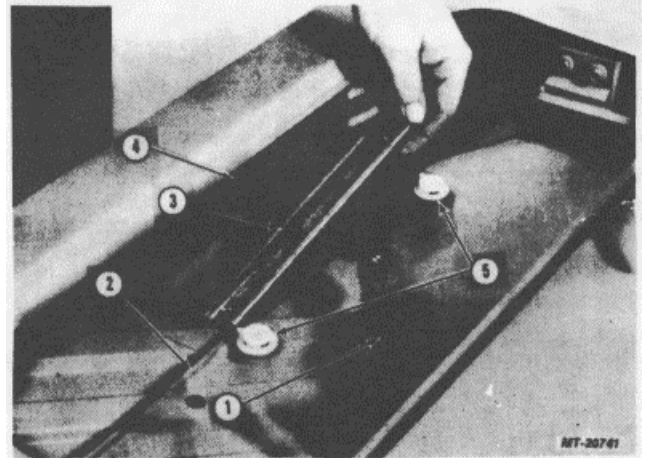

Fig. 11. Removing Window Guide from Window Glass
4. Working thru access opening remove two glass fastener screws from window guide and detach guide from glass and window regulator lever (Fig. 11).